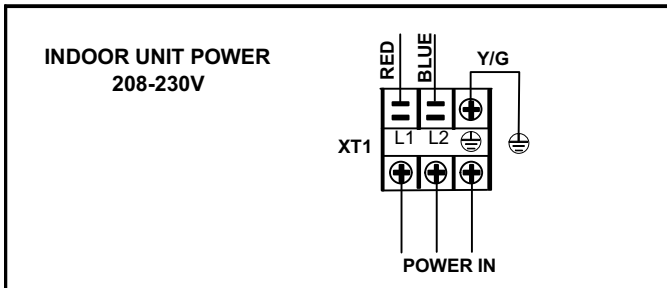

Figure 14. Typical Power Wiring
- 2 - Locate the terminal strip in the control box. Connect the power wiring (sized per NEC/CEC and local codes) and communications cable (**three-core, shielded cable**) per figures 14 and 15. Refer to unit nameplate for rated voltage.